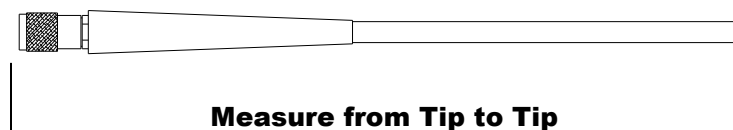

Figure 2-4. Omni Antenna
2. Use Table 2-3 and Figure 2-4 and fully extend, *then* retract the antenna to the correct length for the frequency being tested.